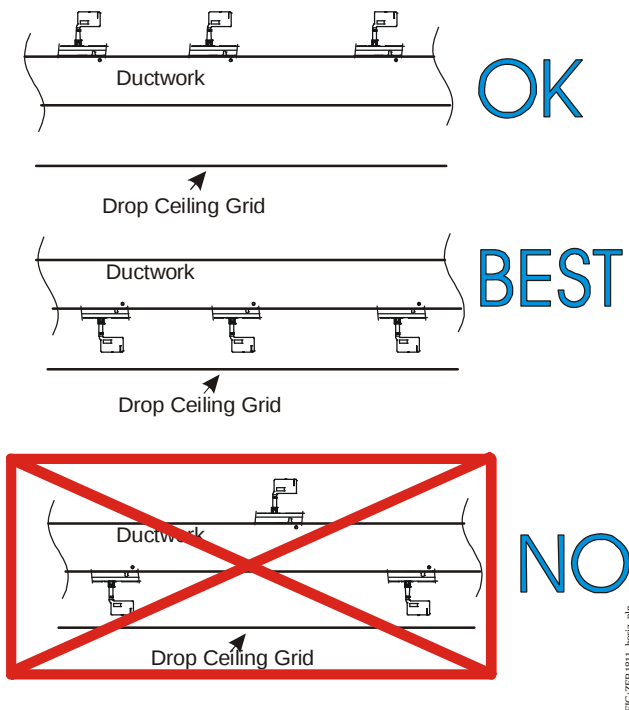

Figure 7: Mount ZFR1811 Routers/Repeaters in the Same Horizontal Plane Below Pipes, Duct Work, or Metal Obstructions
- Mount all ZFR1811 Routers/Repeaters and the antenna of the ZFR1810 Coordinator in the same horizontal plane where possible, preferably just above the ceiling panels. See Figure 7.